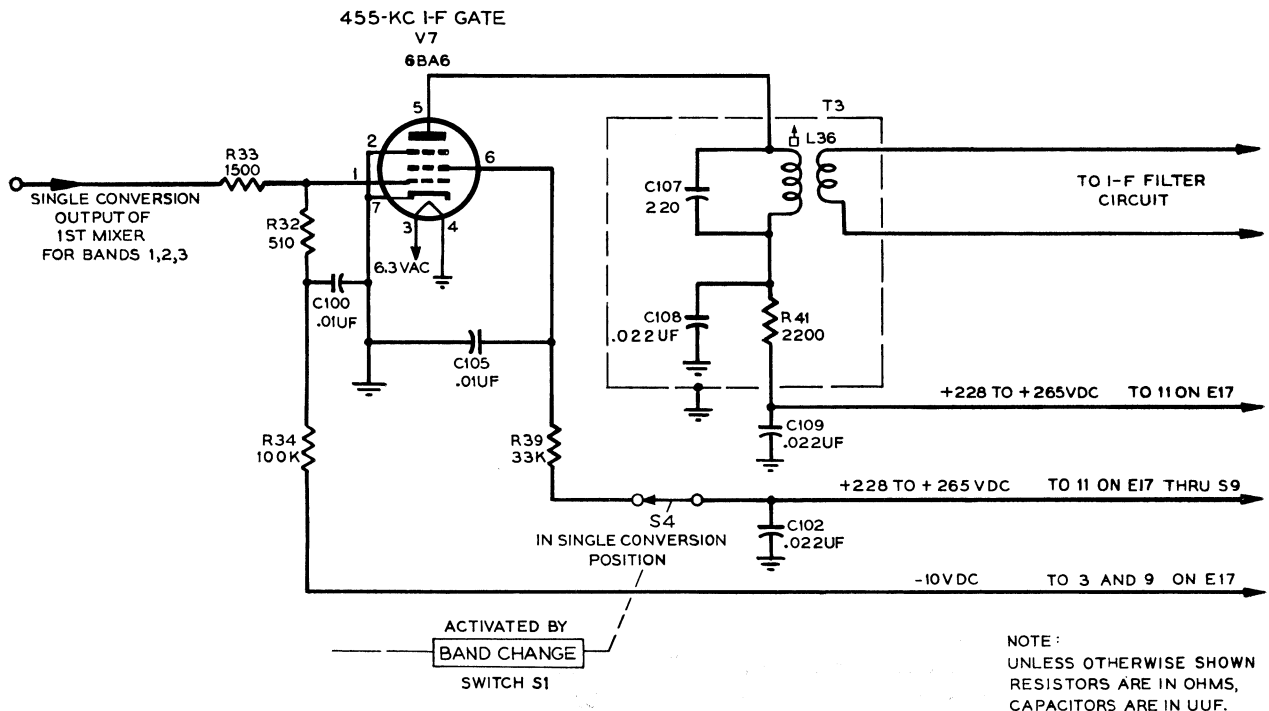

Figure 29. Radio Receivers R-483/FRR, R-320A/FRC, and R-274A/FRR, schematic diagram of the 455-kc i-f gate.
(figs. 29, 30, and 31)
bypass capacitor C105). Plate voltage is applied (from terminal 11 of E17) through the decoupling circuit (resistor R41 and capacitors C109 and C108) and the primary of i-f transformer L36. In figure 29, negative bias voltage is applied to the control grid (from terminals 3 and 9 of E17) through resistors R34 and R32. In figures 30 and 31, self-bias is provided by resistor R112. In figure 31, negative bias is applied to the grid through AVC-MAN switch S8 and resistors R53 and R32. When S8 is in the MAN position, the bias rectifier negative d-c voltage from the movable arm of the RF GAIN control is fed directly to S8. When S8 is in the AVC position, this is still the case, but resistor R97 is connected between S8 and R93. Also, the ave negative bias developed by the ave rectifier is applied fully to the grid through S8, R53, and R32. Capacitor C165 and resistor R53 act as a filter in the ave line and have some effect on the time constant of the ave circuit. R97 isolates the ave bias to the grid circuit. Resistor R94 provides a negative bias of 1 de-volt to the grid when R93 is set fully clockwise; this is its normal setting when operating ave. When R93 is set elsewhere than at maximum, the actual negative bias effective at the grid is a complex resultant of the ave bias developed and the
c. The 455-ke signal input to the control grid of the 6BA6 tube used in the stage is provided through R33 across grid input resistor R32 from first mixer stage V5. In figure 29, resistor R34 and capacitor C100 isolate the signal to the grid. These are not required in figures 30 and 31. In figure 31, decoupling is provided by R53 and C165. The stage 455-ke signal output, to the i-f filter circuit, is mutually coupled to the secondary of the L36 i-f transformer. The primary of L36, shunted by capacitor C107, is the parallel resonant load impedance of the stage, the adjustable iron core of L36 providing for alinement to 455 ke.